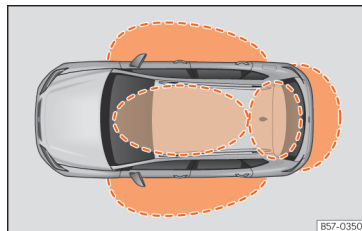
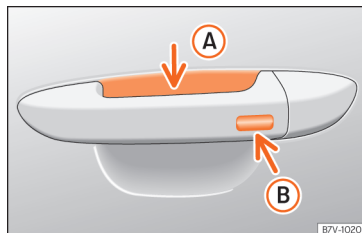

Fig. 91 Keyless Access: proximity zones.
Fig. 92 Door handle: sensor surfaces
>>> Fig. 92
Keyless Access is a key-free locking and ignition system to unlock and lock the vehicle without actively using its key. To do this, all that is required is to have a valid vehicle key in the detection area where you are attempting to access the vehicle »» Fig. 91 and to touch one of the sensor surfaces on the door handles »» Fig. 92 or operate the *softtouch*/handle on the rear lid »» page 110 »» ❶.
If a valid key is in the proximity of the car, »» Fig. 91 the Keyless Access locking and starting system gives the key entry as soon as one of the sensor surfaces on the door handles is touched or the *softtouch*/handle on the rear lid is operated.
- Grip one of the front door handles. When you do this, you touch the sensor surface »» Fig. 92 (A) (arrow) of the handle and the vehicle unlocks.
- Touch (once) the locking sensor surface »» Fig. 92 (B) (arrow) on one of the front door handles. The door that is used must be closed.
- Touch (once) the sensor surface »» Fig. 92  (arrow) on one of the front door handles. The vehicle locks with the “Safe” security system »» page 105. The door that is used must be closed.
- Touch (twice) the sensor surface »» Fig. 92  (arrow) of one of the front door handles to lock the vehicle without activating the “Safelock” security system »» page 105.
When the vehicle is locked, the rear lid automatically unlocks on opening if there is a valid vehicle key in the proximity zone »» Fig. 91.
- Push the central locking button  on the remote control and touch the locking sensor surface of the driver door handle »» Fig. 92  within the following 5 seconds. Do not grasp the door handle; otherwise the vehicle will not unlock. Deactivation is also possible if the vehicle is locked through the driver's door lock.
To close all the electric windows and the sunroof using the **comfort function**, keep a finger for a few seconds on the locking sensor surface »» Fig. 92  (arrow) of the door handle until the windows and roof have closed.
The sensor surfaces on the door handles could engage if hit with a water jet or high pressure steam if there is a valid vehicle key in the proximity. If at least one of the electric windows is open and the sensor surface »» Fig. 92 B (arrow) on one of the handles is activated continuously, all windows will close.